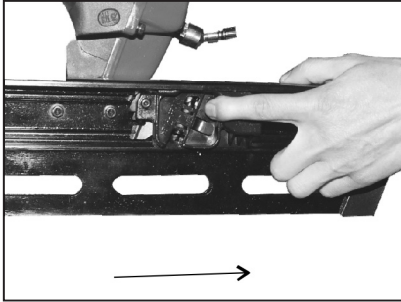

Figure 6
- A. Pull feeder shoe all the way to the rear, until it latches (see Fig. 6).